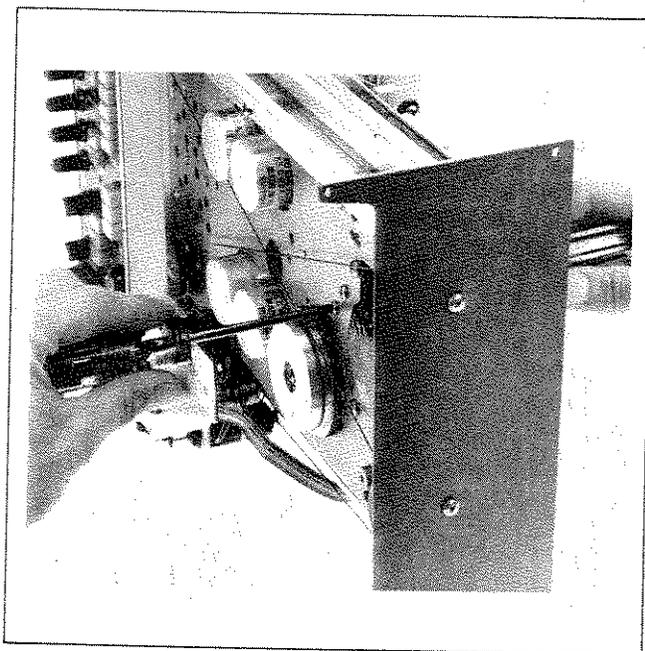

Figure 8-12. X-Axis Servo Motor Removal
3. Remove screw and nut holding servo motor casting on unit (See Figure 8-12.) Replace with new X-axis servo motor, Part No. 5060-6608.